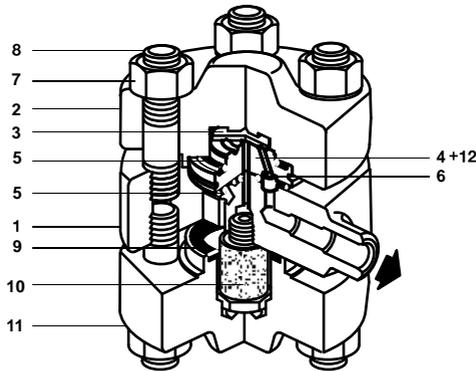

Figure 1 : Forbes Marshall Thermodynamic Trap
4.1. Operation of Forbes Marshall Thermodynamic Trap [FMTD722-M]: [Refer figure 1]